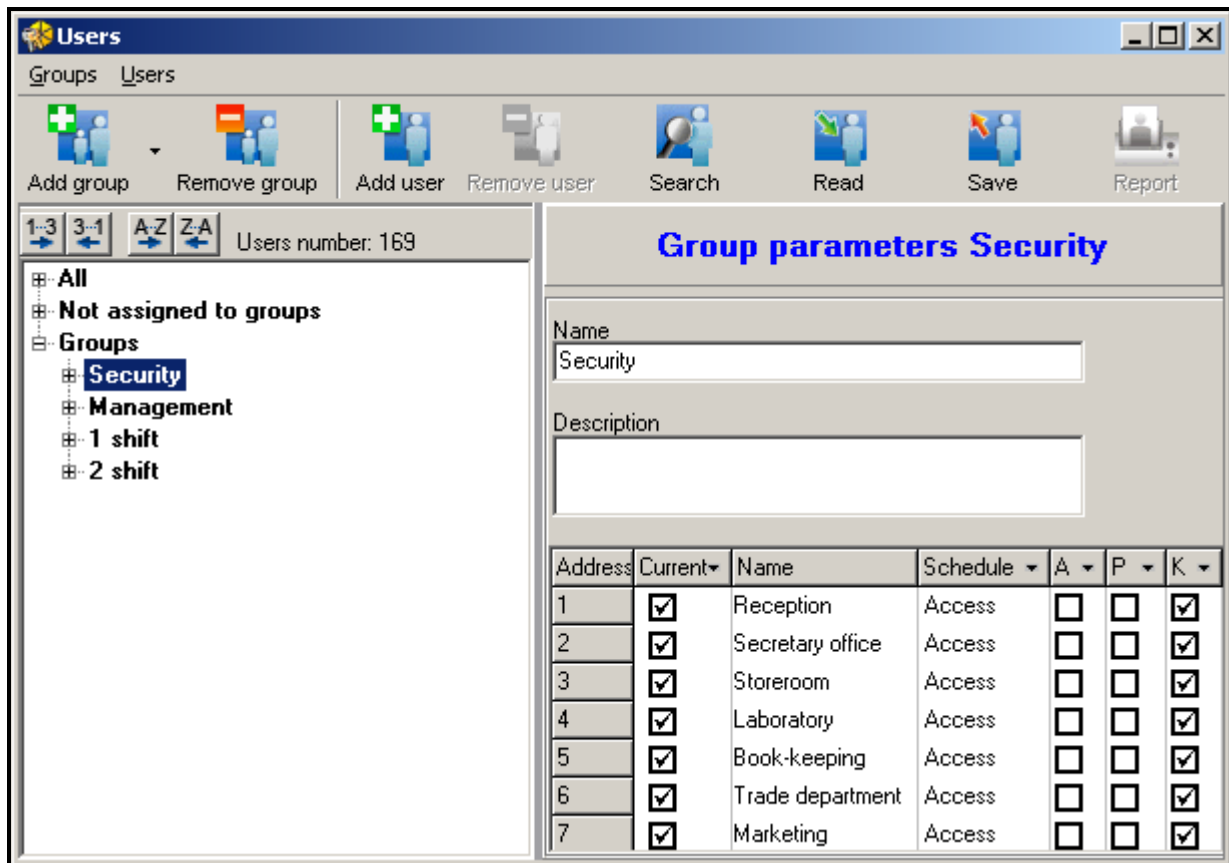

Fig. 28. An example of user group settings.
2. Click on the  button and select the GROUP THE USERS command (see Fig. 28). The users not assigned to any group will be assigned to the first available group with parameters corresponding to those of the given user. If there is no group corresponding to the user parameters, a new group will be created.